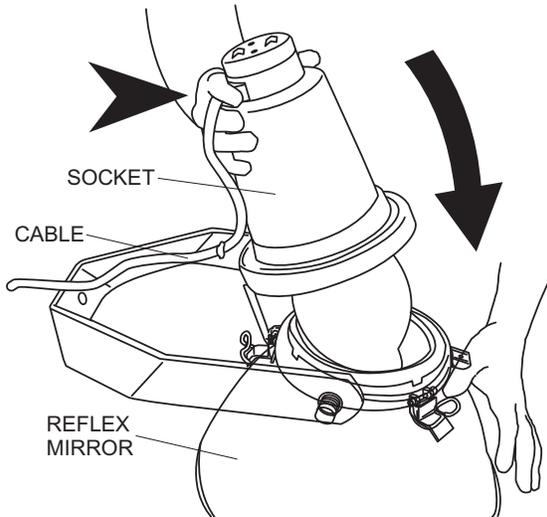

Figure 11. Positioning the Socket
2. Adjust the reflex mirror and the socket together so that the cables of the two upper lighting units are positioned downward and the cables of the two lower lighting units are positioned upwards. See Figure 11.